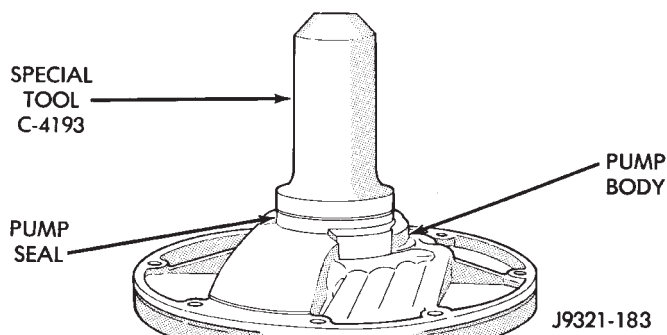

Fig. 51 Pump Oil Seal Installation
(12) Install new oil seal in pump with Special Tool C-4193 and Tool Handle C-4171 (Fig. 51). Be sure seal lip faces inward.
(13) Install new seal ring around pump housing. Be sure seal is properly seated in groove.
(14) Lubricate lip of pump oil seal with petroleum jelly. Lubricate pump seal with Ru-Glyde or petroleum jelly.